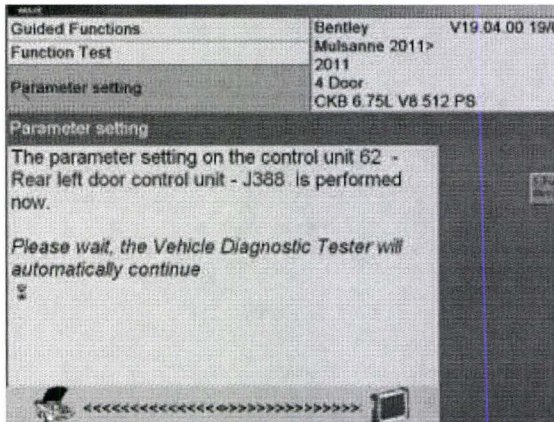

Figure 12
19. Follow the screen prompts to perform the parameter settings for both rear door control units (see Figure 12)